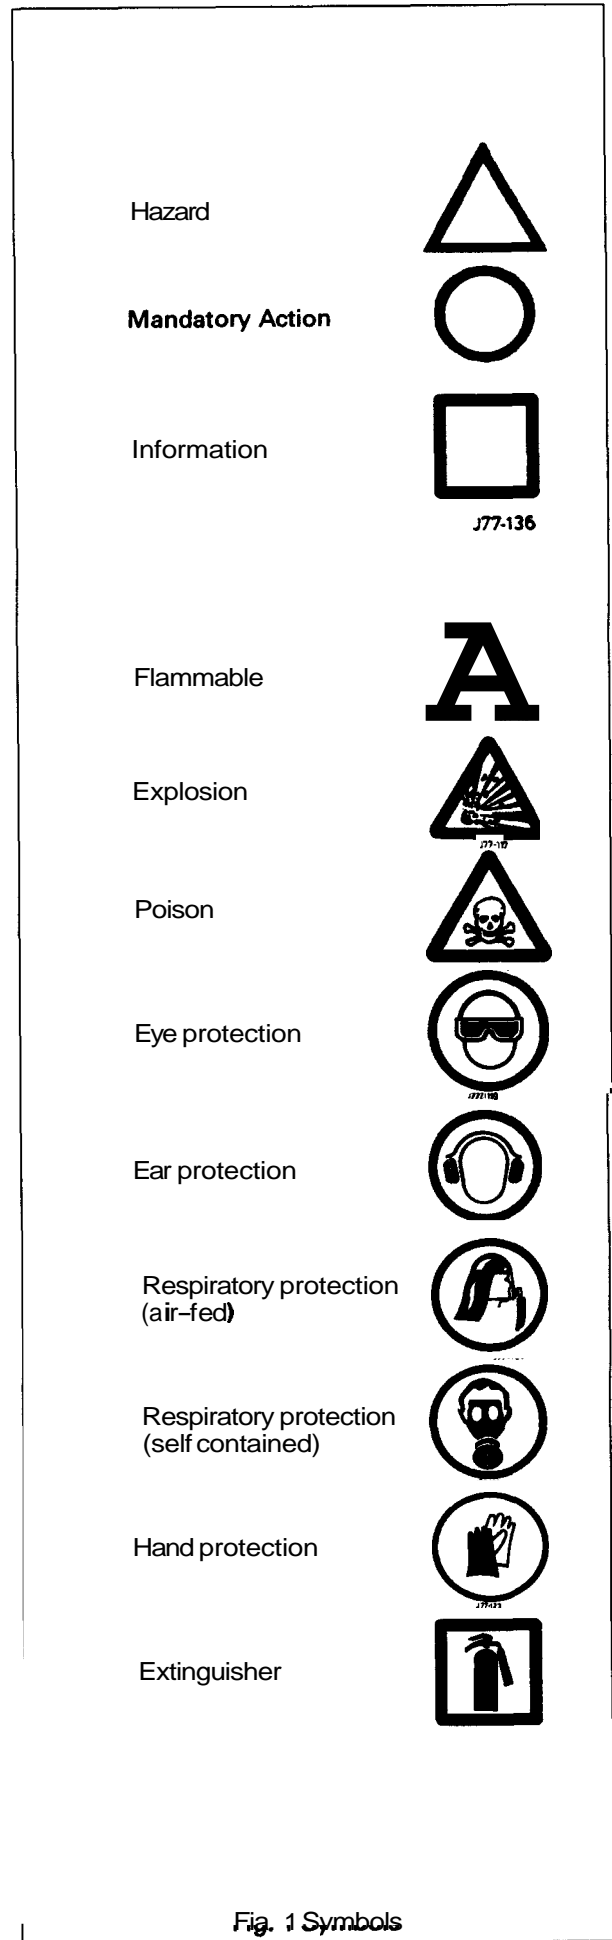

Fig. 1 Symbols
- The surround shape of the symbol will indicate the basis of the message to be conveyed (see top three elements of Fig. 1)